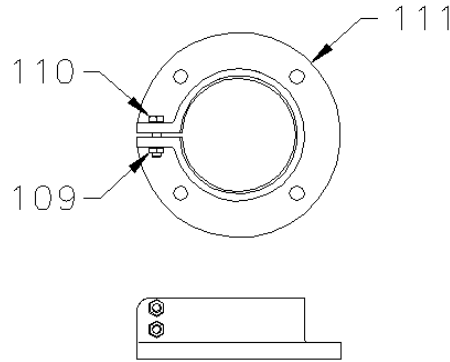

FIGURE 5
2.7 "Q" Units - Open Tank Mounting Module - The mixer housing module mounts in the bore of the Pedestal (111) and is secured by tightening the two hex head cap screws (110) and hex nuts (109). Refer to Figure 5.